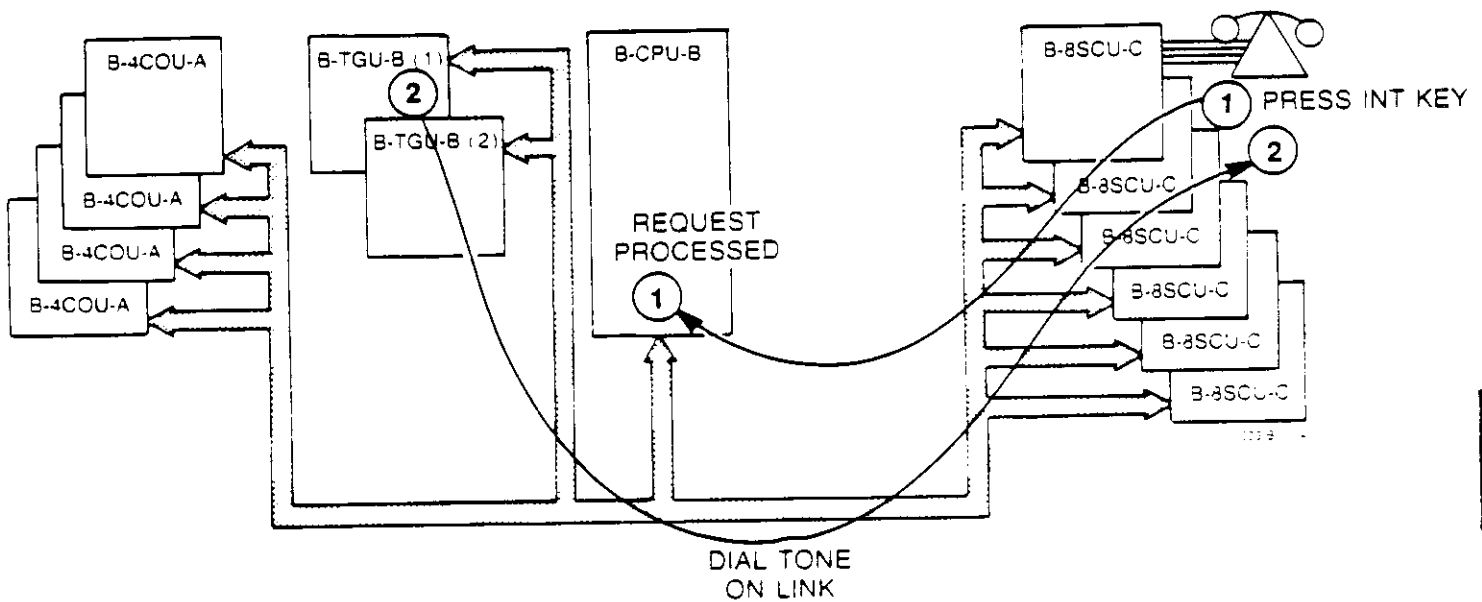

Figure 8-20 PLACING AN INTERCOM CALL, EK-824/1232/1648 (Page 1 of 2)
5.15 When the multibutton telephone user lifts the handset and presses the INT key, the change of state is sent in the data stream to the 6504 station processor. The 6502 traffic controller in the B-CPU-B PCB sees the change and sends it to the Z80 for processing (Figure 8-20, signal 1). The Z80 in the B-CPU-B PCB interprets the change and assigns an Intercom link to the station. It signals the B-TGU-B PCB to put Intercom dial tone on the selected link, and instructs the B-3SCU-C PCB to connect the link to the telephone audio (B) pair (Figure 8-20, signal 2). The system waits for digits to be dialed.
5.16 Once Intercom dial tone is returned to the calling station, the user can dial the destination station (Figure 8-20, signal 3). If a display telephone is being used to place the call, the dial pad digits are included in the data exchange from the telephone to the B-8SCU-C PCB. The 6504 station processor reads the dialed digits and sends them to the B-CPU-B PCB. If the called extension is busy, the Z80 tells the B-TGU-B PCB to attach busy tone to the calling link. If the called station is idle (and Handsfree Answerback is enabled), the Z80 connects the B pair of the called station to the Intercom link and enables the called station's speakerphone (Figure 8-20, signal 4). The Z80 instructs the B-TGU-B PCB to send splash tones to the called station, indicating that an Intercom conversation has been established (Figure 8-20, signal 5).